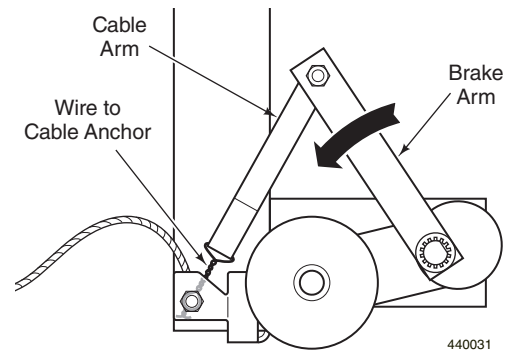

Figure 16
1. Remove the Anti-Drop Roller Brackets from the Door Panel. On one of the Brackets rotate the Brake Arm up to move the Cam Brake away from the Track Roller. Block the Brake Arm in this open position with a C-Clamp or wire the Cable Arm to the Cable anchor. See Figure 16.